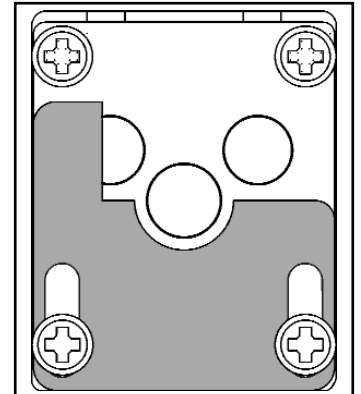

Figure 35.
1. The aeration shutter is factory set. It is important to ensure that the aeration setting is correct (See figure 35).